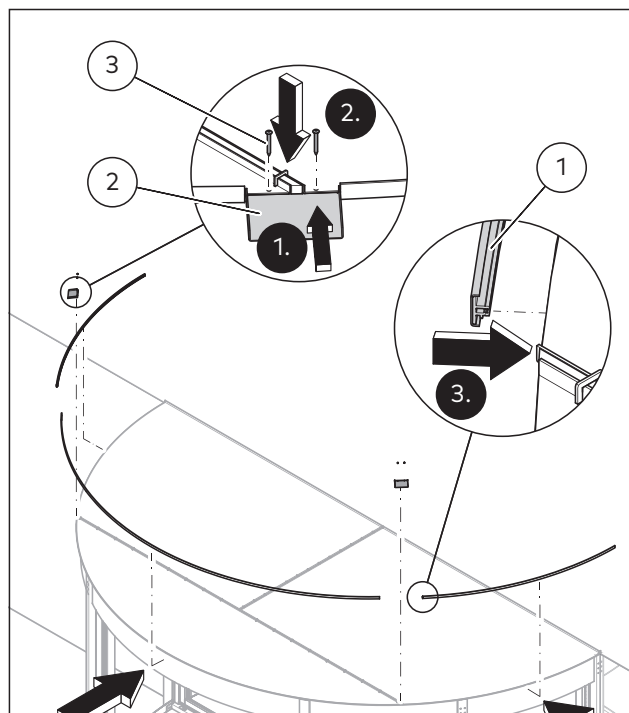

Fig. 128 Mounting water drains and the strips
1. Place the water drains (Fig. 128/2).
2. Fasten the water drains with nails (Fig. 128/3).
3. Clip the strips (Fig. 128/1) on the rim of the covers.